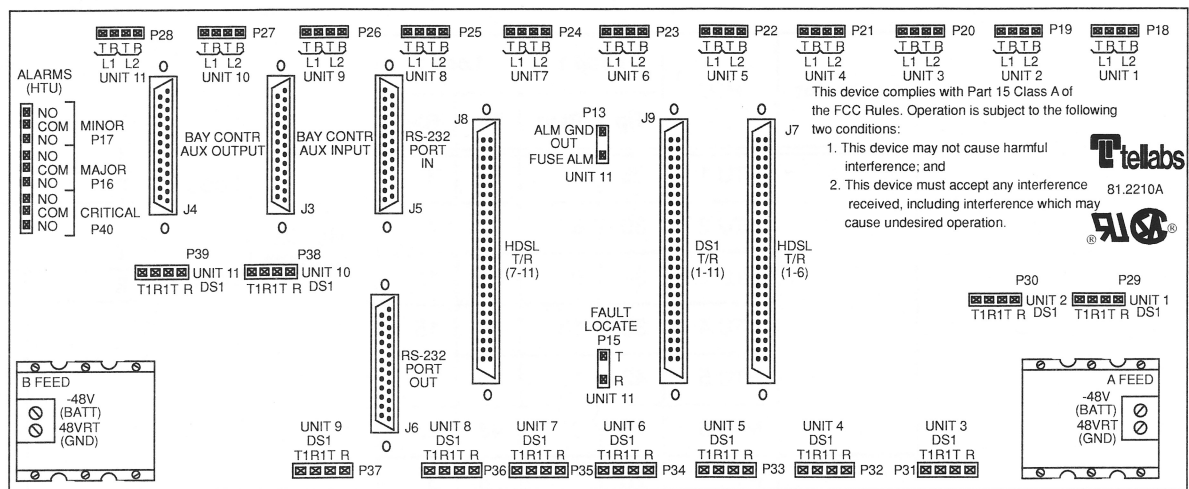
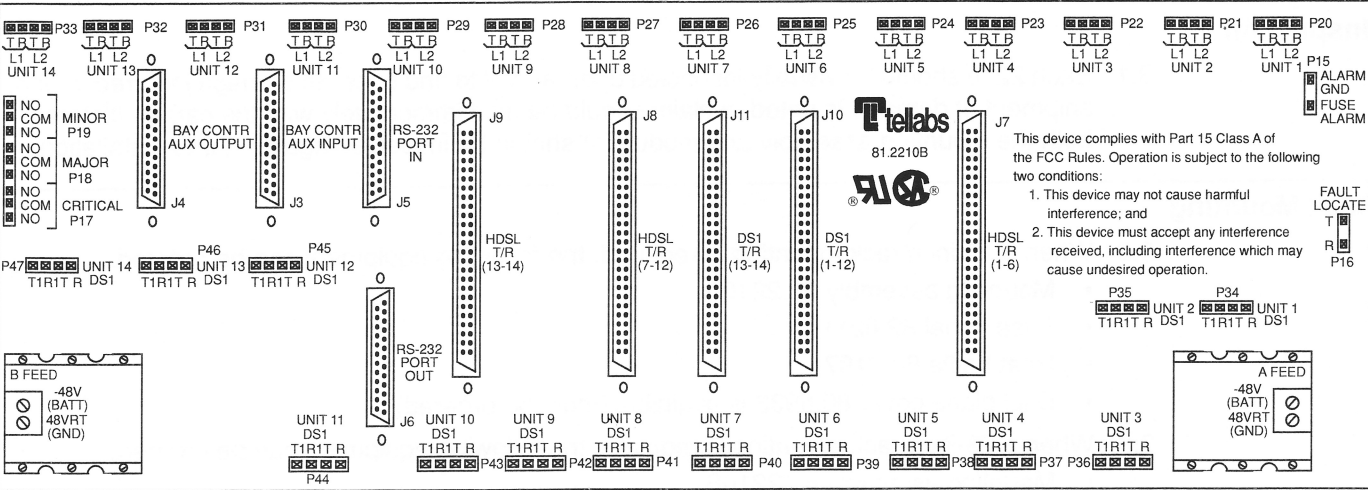
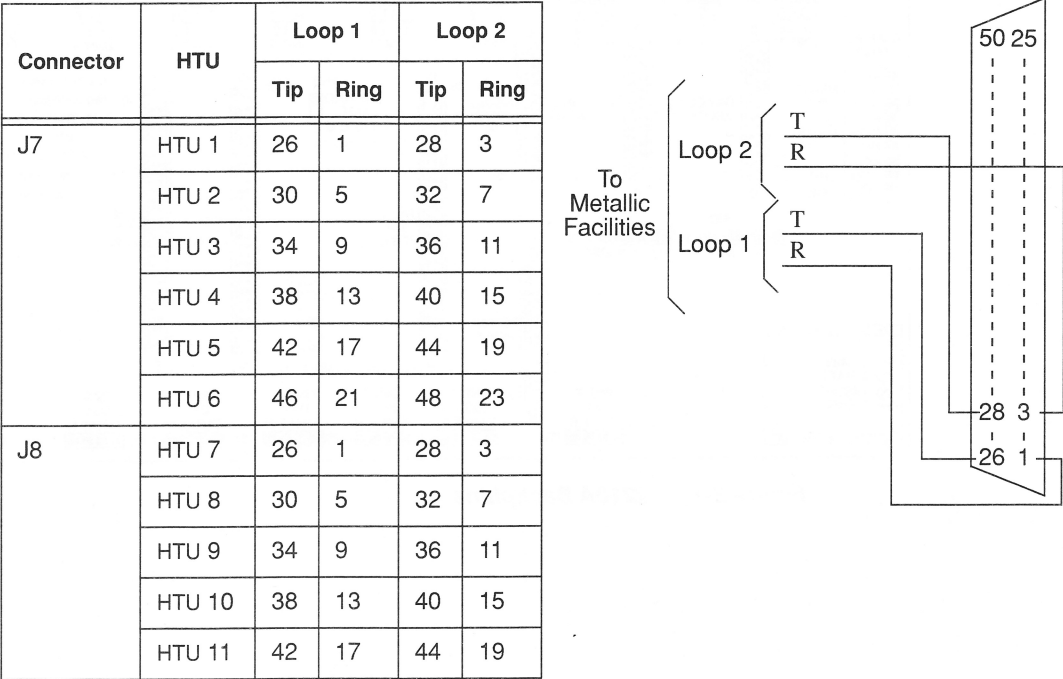
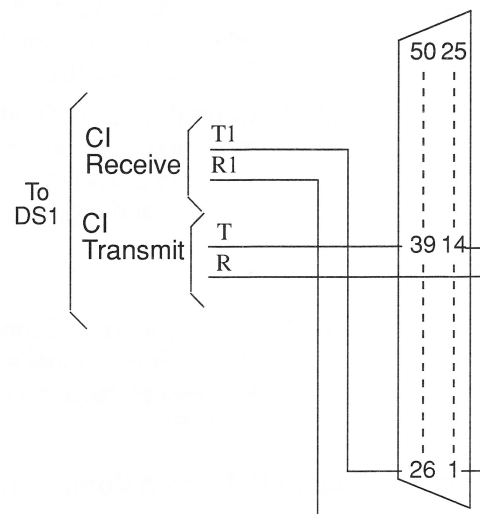

Figure 3-1 2210A Backplane
Figure 3-2 2210B Backplane
Figure 3-3 HDLSL Connector Pin-Outs 2210A
Figure 3-5 DSI-RJ48H Connector Pin-Outs 2210A
- 3.4 Refer to Figure 3-1 for a diagram of the 2210A backplane.
3.5 Refer to Figure 3-2 for a diagram of the 2210B backplane.
3.6 All connections (Loop 1 Tip, Ring and Loop 2 Tip, Ring) for the HDLSL line-side of the 2210 are made via either an amphenol connector (refer to Figures 3-3 and 3-4) or wire-wrap pins located on the backplane of the shelf (refer back to Figures 3-1 and 3-2). Cable strain relief is provided at the back of the shelf.
- 3.7 All connections (T1,R1 and T,R) for the DS1 side of the 2210 are made via either an amphenol connector (refer to Figures 3-5 and 3-6) or wire-wrap pins located on the backplane of the shelf (refer back to Figures 3-1 and 3-2). Cable strain relief is provided at the back of the shelf.
- 3.8 Connections for alarm ground and fuse alarm outputs for traditional 220 repeaters are made via wire-wrap pins on the backplane of the mounting assembly. Refer back to Figure 3-1 (2210A) and Figure 3-2 (2210B).
- 3.9 Connections for fault locate tip and ring pair for traditional 220 repeaters are made via wire-wrap pins on the backplane of the mounting assembly. Refer back to Figure 3-1 (2210A) and Figure 3-2 (2210B).
- 3.10 Central Office (CO) alarm connections are made via wire-wrap pins on the backplane of the mounting assembly. Normally Open (NO), Normally Closed (NC), and common (COM) contacts are provided for major, minor, and critical alarm connections. Refer back to Figure 3-1 (2210A) and Figure 3-2 (2210B).
- 3.11 Power (-48Vdc) Connection A feeds all the HTU-C/220 modules in the mounting assembly. Power Feed A must always be connected. Power Feed B may be used for redundant power supplies as required (HTU-C only). Refer back to Figure 3-1 (2210A) and Figure 3-2 (2210B).